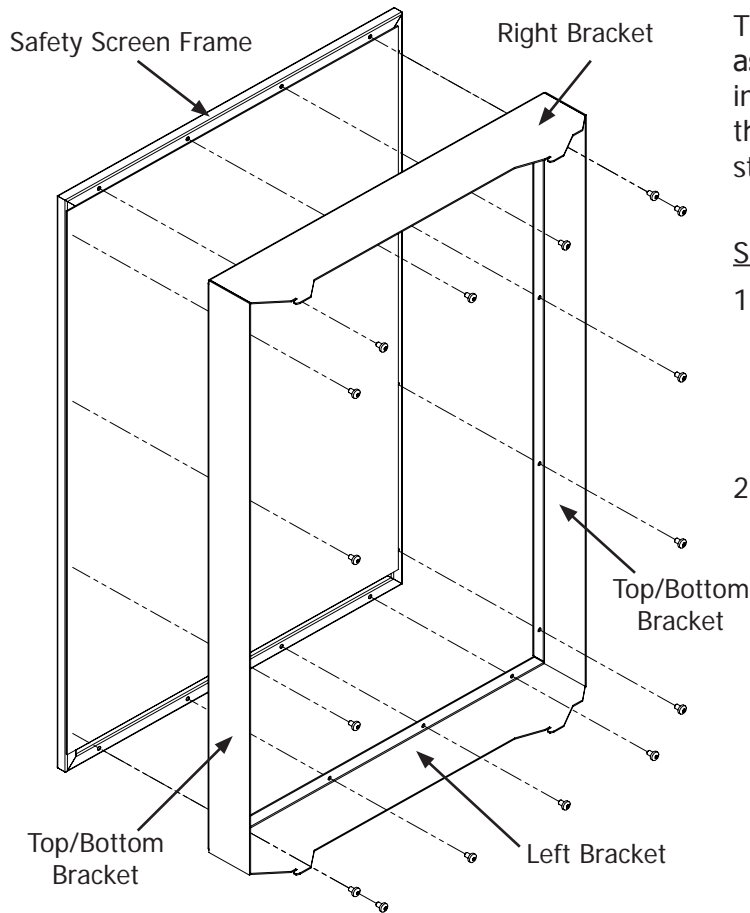

Figure 45: Installing Safety Screen Mounts.
1. Attach the left, right, top/bottom brackets onto the safety screen using a T20 screwdriver and the supplied sixteen (16) #8 T20 screws (see Figure 45). Do not over-tighten the screws, doing so could cause them to strip out of the screen frame.